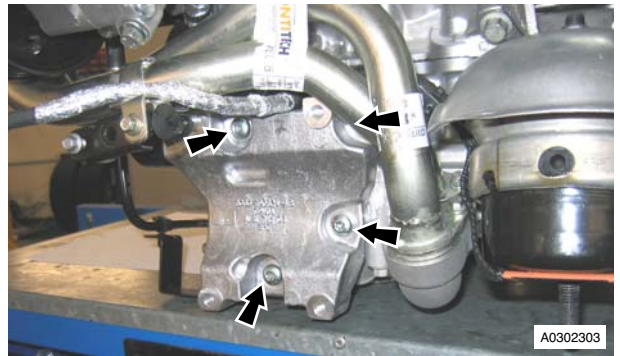

Figure 10
22. Remove Torx bolts (x4) securing A/C compressor mounting bracket to engine bedplate and sump. Remove bracket (see Figure 10).